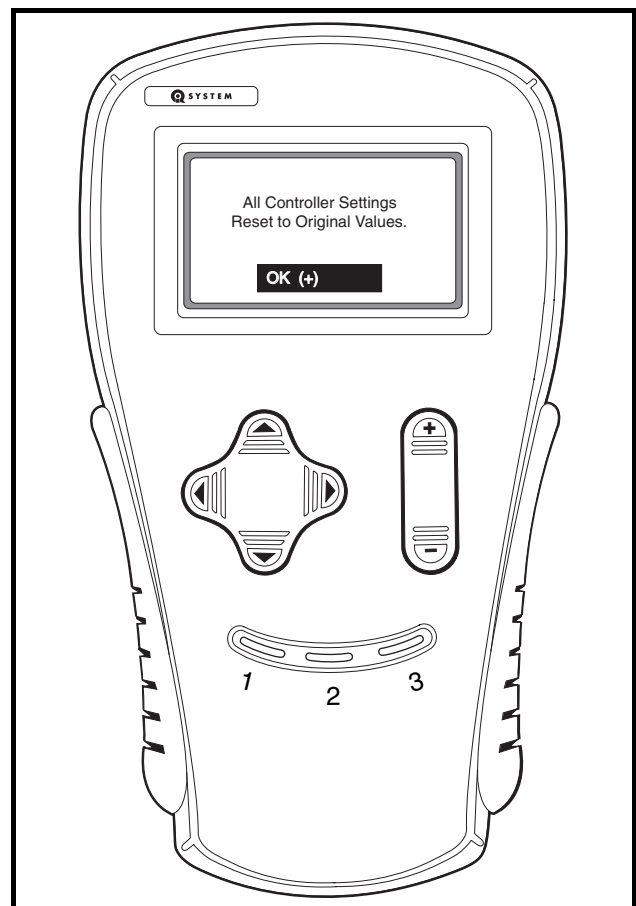

Figure 22-7 Confirmation Message
6. When the handset is finished resetting the speed controller settings, a confirmation message is displayed (**Figure 22-7, Page 22-13**).